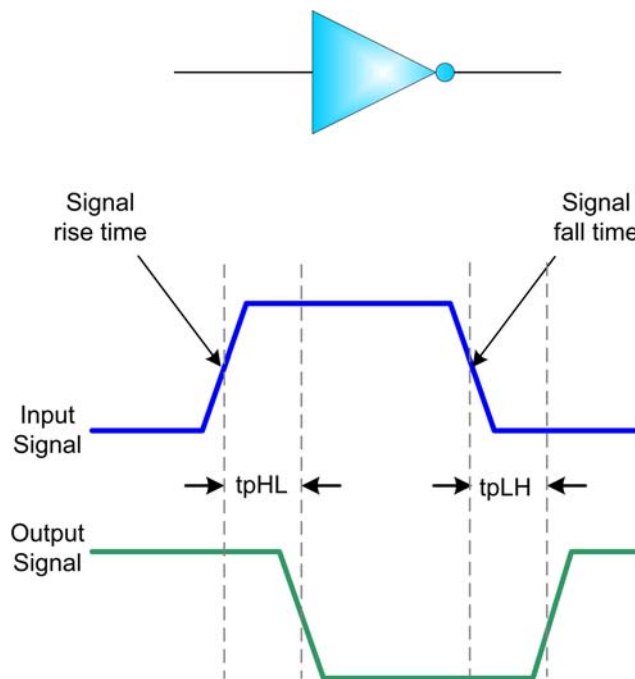

Figure 6: Propagation Delay
- In Figure 6,  $t_{PHL}$ , describes the time it takes for an input to cause the output to change from logic-level-high to logic-level-low.